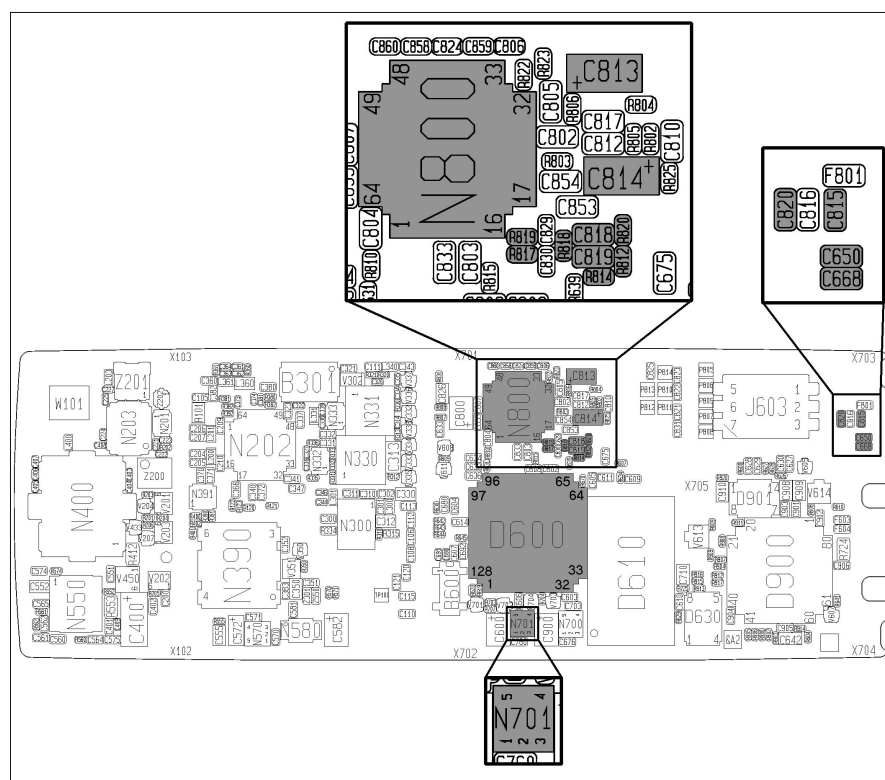

Fig. 4.2
Check the soldering at N800 (fig. 4.2).
If both resistances are correct, measure the resistance between P800 (fig. 4.1) and N800:14 (fig. 4.2) (~2 kOhm).
- If the resistance is too low, replace C820 (class A, fig. 4.2).
- If the resistance is too large, replace R820 (1.5 kOhm, class A, fig. 4.2).
Check the soldering at N800 (Note! Class C) and D600 (fig. 4.2)
Measure the voltage VDIG at N701:5 (~3.2 V, fig. 4.2).
Measure the voltage (~3.2 V) at both sides of R601 (fig. 4.1) and at D600:70 (fig. 4.2).
Check the soldering at N800 (**Note! Class C**, fig. 4.2).
Measure the resistance between the system connector J602:1 and ground (~100 kohm), if it is too low, replace F601 (fig. 4.1), C650 and C668 (fig. 4.2) (all class A, fig. 4.1).
If any component is faulty, replace it (all class A, fig. 4.2).
- If all resistances are correct, check the soldering at N800 and D600:67,70 (fig. 4.2).
- \* If the resistance still is incorrect, replace D600 (class B, fig. 4.2).
Measure the resistance between J602: 6 and D600:92 (fig. 4.2), it should be 470 ohm.
- \* If the resistance is correct and the fault still remains, replace D600 (class B, fig. 4.2).